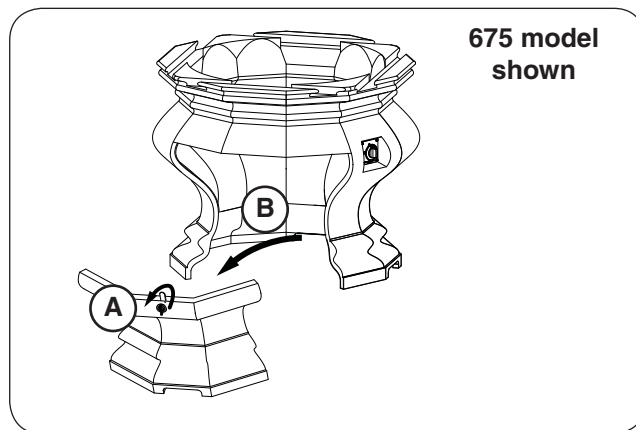

Fig. 19-1 Place base and remove door
1. **CAREFULLY** place the base in an appropriate location (see Fig. 19-1, and refer back to the LOCATION section if needed).
2. Remove the storage door by first turning the door handle counter-clockwise, then carefully pulling the door outward (see Fig. 19-1). Store in a safe location.